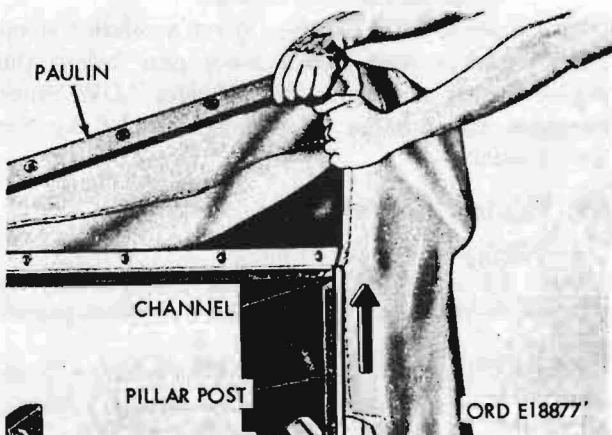

Figure 107. Removing cab top paulin.
- (2) Slide the paulin up from the channels in the pillar post (fig. 107).